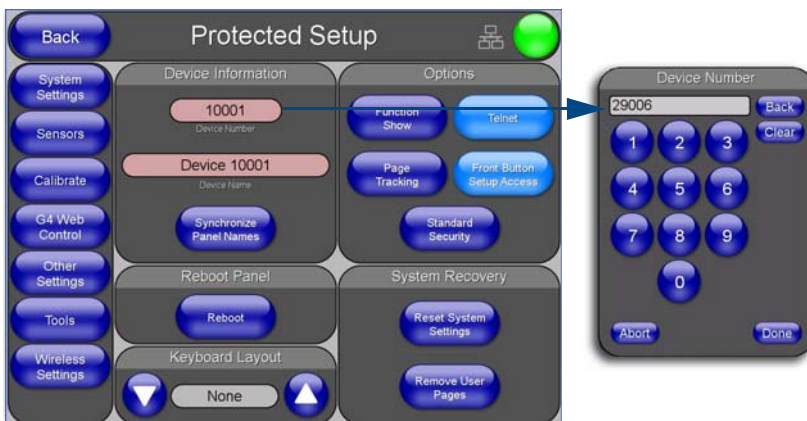

FIG. 69 Protected Setup page
4. Press the red Device Number field to open the Device Number keypad (FIG. 69).